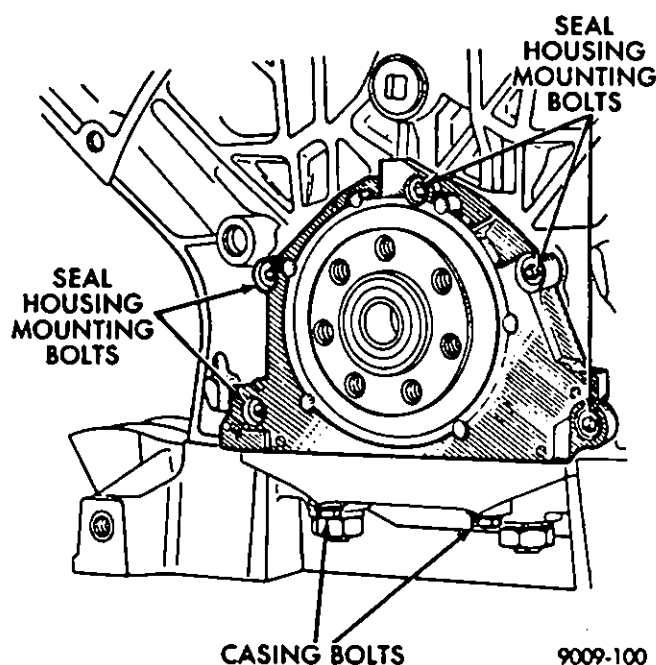

Fig. 1—Rear Crankshaft Seal Housing
- (1) Remove the bolts from the lower casing (Fig. 1).
- (2) Remove seal housing mounting bolts (Fig. 1).
- (3) Remove the seal housing and gasket.
- (4) Push the old seal from the housing.